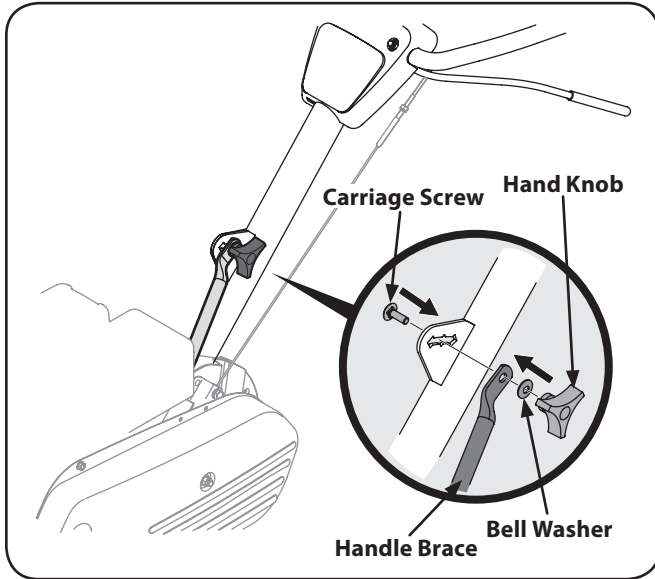

Figure 1-4
- Tighten the bolt securely after securing the handle brace as seen in Figure 1-4.
- Insert the carriage screw through the bracket on the handle, bell washer, handle brace and into the hand knob. See Figure 1-4.
- Select one of the three handle height positions (three notches in the welded handle bracket) and tighten the hand knob to secure the handle in the desired position. See Figure 1-4. Return to the lower handle and tighten the hex bolt securely.